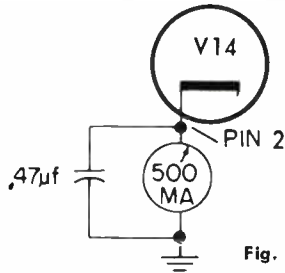

Fig. 1
**MILLIAMMETER** — Open the jumper and insert a 0-500 ma. meter between pin 2 (cathode) of V14 (Horizontal Output) and ground, see Fig. 1. By-pass meter with .47 uf. capacitor at the tube socket.